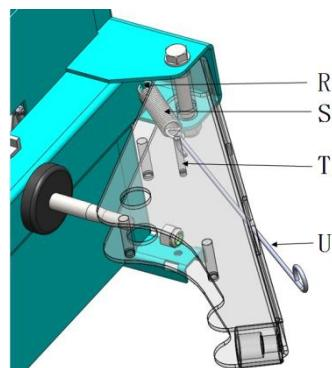

Fig. 9
- Hook the spring (S, fig.9) through the machine in the right way, so it is secured, now use a spring hook (U, fig.9) to stretch it and fix it to the spring pin (T, fig.9) in the bead breaker arm. Now take out the spring hook (U, fig.9).